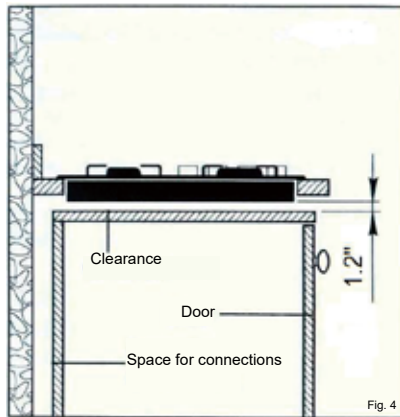

Fig. 4
It is recommended that a 1.2" clearance be left between the cooker top and the fixture surface (Fig. 4).
1. Product Features: the fixture surface(Fig. 4).
- Screw the adopter pin back into top cover assembly. Then put the top cover back onto the regulator(Figure 4).